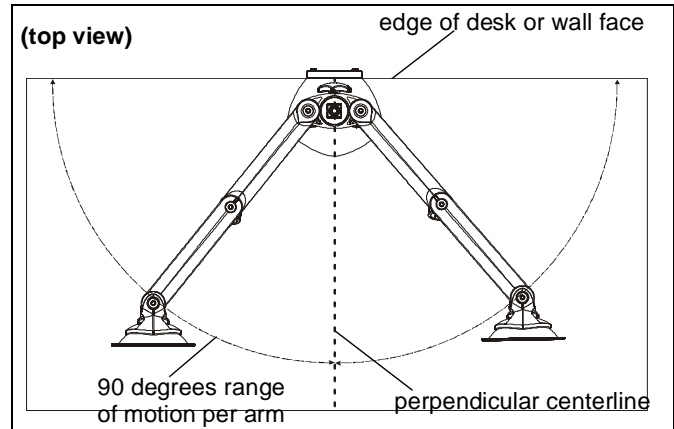

Figure 25
1. Adjust arm angles as desired within a 90 degree range from the edge of desk or wall and a perpendicular centerline of mount. (See Figure 25)